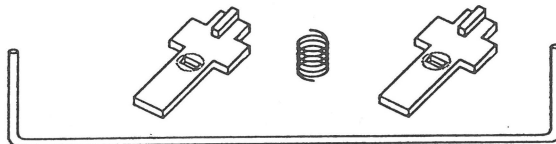

FIGURE 6
- IPL.9 Spacebar Stabilizer Assembly (Figure 6)
□ SPACEBAR STABILIZER ASSEMBLY (Figure 6)